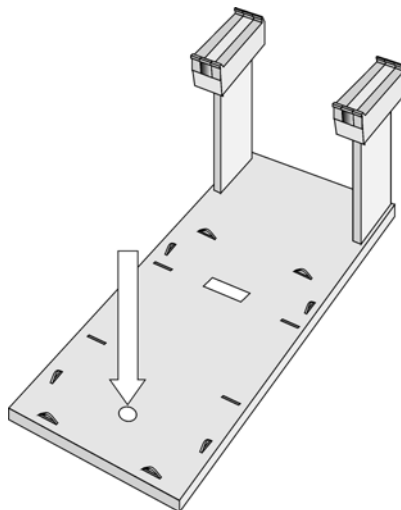

Figure 16. Trayholder Reference Position
- 6 Rotate the outer knob to adjust the X- axis position to the Trayholder **Reference Position** (see Figure 16, page 26).